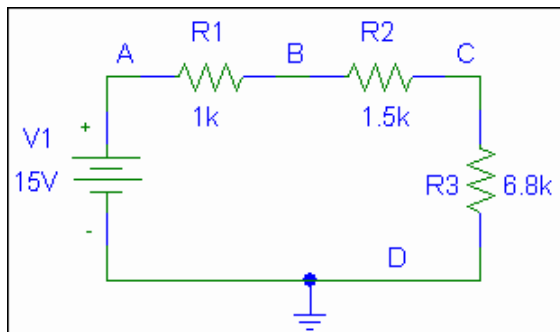

Figure 1d-1
1. Connect the circuit shown in **Figure 1d-1**.